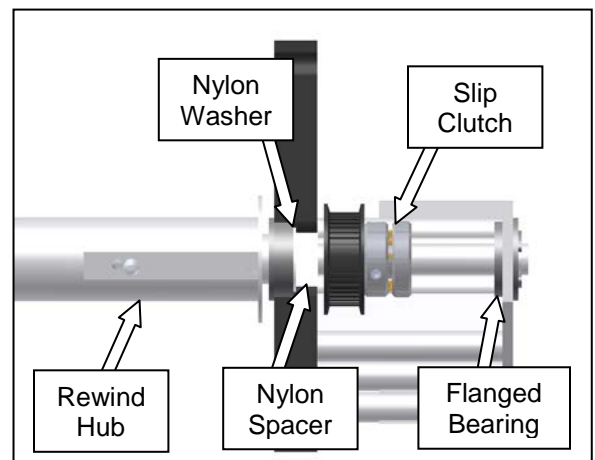

Figure 3-214. Rewind Hub Shaft Components
9. Reinstall the ribbon hub shaft components with the new belt on the slip clutch. Be sure to include all the parts shown in figure 3-214 during installation. Once all components are in place, reinstall the E-Clip on the end of the shaft on the outer side of the bearing.